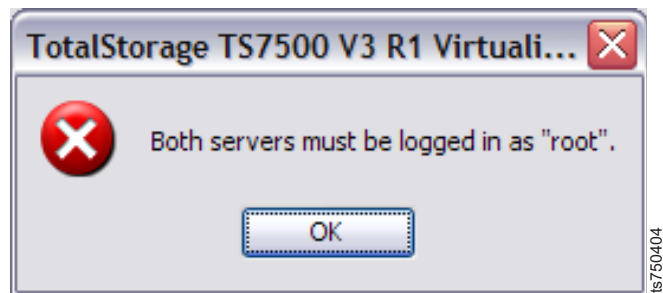

Figure 52. Root information window
5. If required, click **OK** at the Root Information window (see Figure 52).